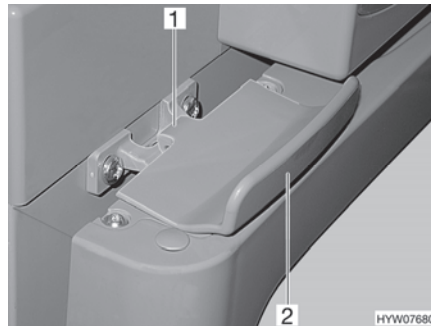

Fig. 107 Lock of refrigerator door, closed (Thetford)
- Open the refrigerator door at the handle (Fig. 107,2). The lock (Fig. 107,1) is released automatically.